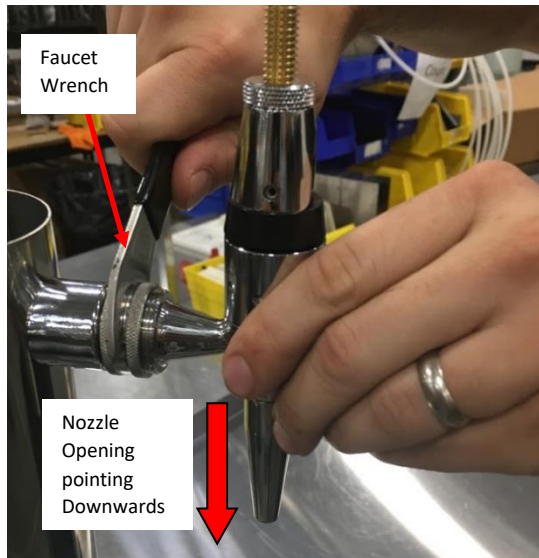

Figure 40: *Install Faucet with Nozzle facing downwards.
- h. Screw the Faucet back together and install it back onto the tower by rotating the Silver Threaded Collar. **See Figure 39.** Use the Faucet Wrench to tighten the Faucet securely in place. Ensure that the nozzle opening is facing downwards. Insert the pin on the Faucet Wrench in the opening on the Shank Nut and apply leverage to tighten the Shank Nut. **See Figure 40.**